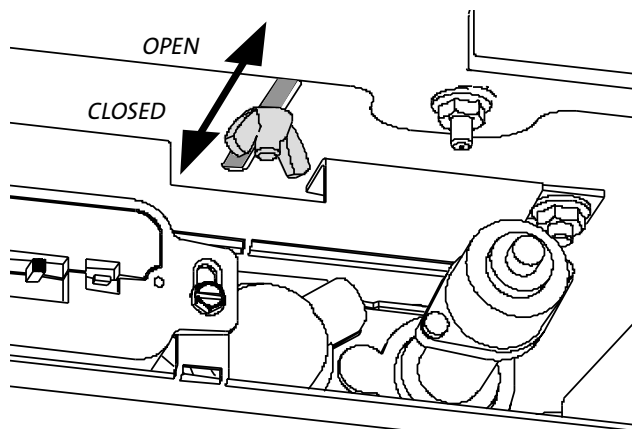

Figure 7.9.
18. **NATURAL GAS ONLY: Adjust the Air Shutter.** Fig. 7.9. The factory setting for NG is 1/16" open. Adjustment may be necessary to provide the best flame picture depending upon the specific vent configuration.